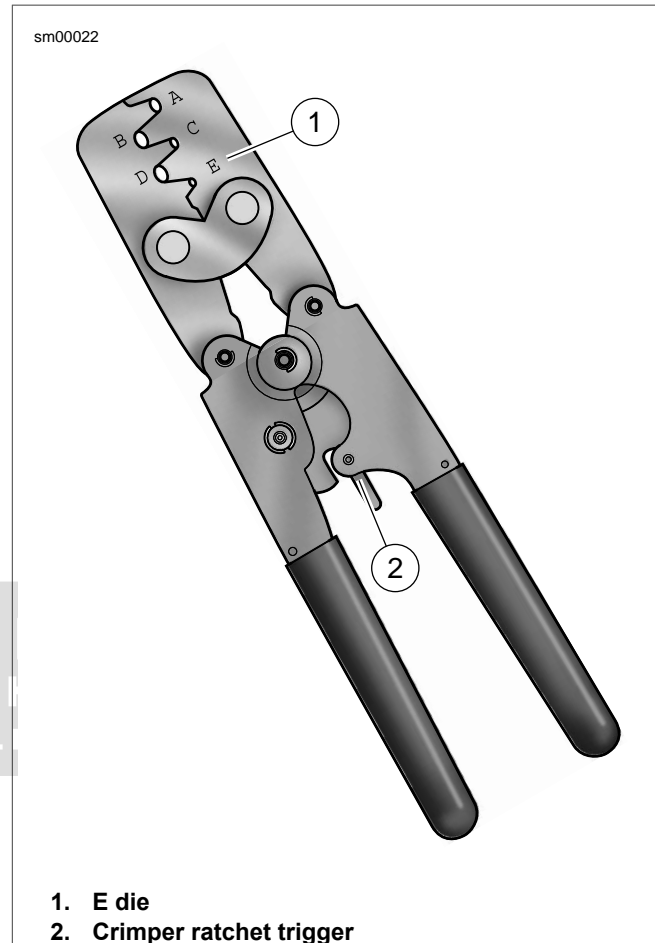

Figure A-37. Packard Terminal Crimper (HD-38125-7)
1. See Figure A-37. Compress the handles of PACKARD TERMINAL CRIMPER (Part No. HD-38125-7) until the ratchet (2) automatically opens.
2. Position the core crimp on die E (1) of the crimper. Verify the core crimp tails are facing the forming jaws.
*If the crimper does not open, squeeze the ratchet trigger (2).*